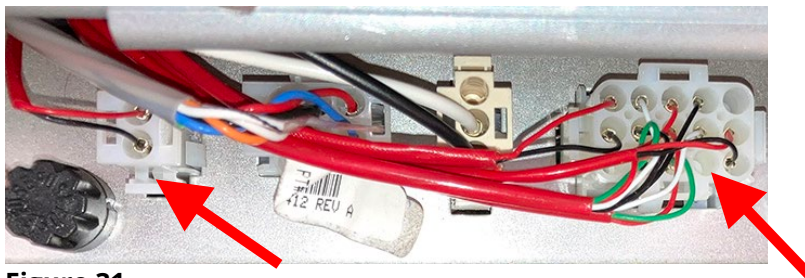

Figure 31
29. Connect both the 2-pin harness connector and the 15-pin harness connector that were secured in step 20, to the available connectors on the front of the FIB box. Ensure both are securely connected (see Figure 31)